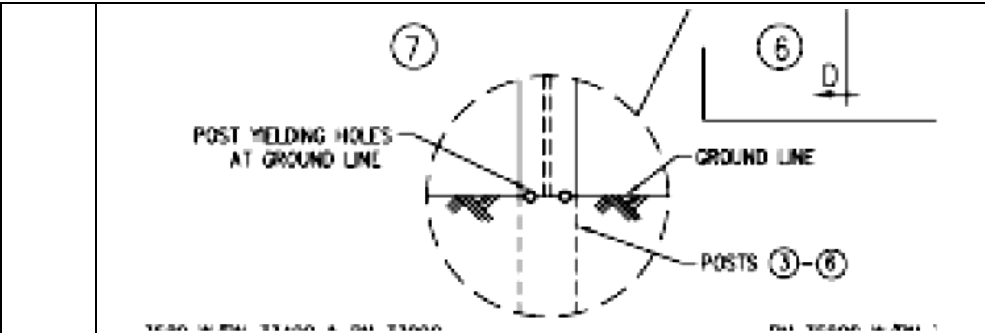

Figure 2
Note: In either option within the previous step, the center of the 1/2" (13) or 13/16" (21) yielding holes in the post is approximately at the finished grade. (See Figure 2)